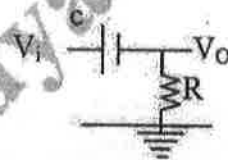

Fig. 1
1. Find the transfer function of the network given in fig. 1.